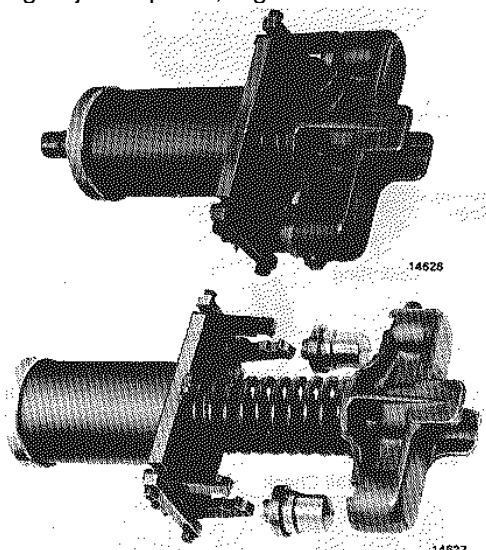

Fig.2-24-Removing Hydraulic Lash Adjuster
1. Remove lash adjuster assembly from bridge, using adjuster puller, Fig. 2-24.